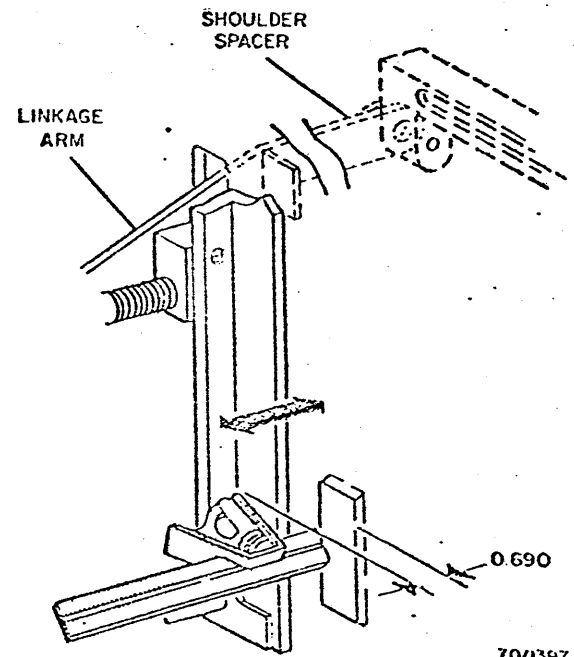

Fig. 3-33. Linkage Arm
3. Adjust the shoulder spacer to obtain the 0.690 dimension (Fig. 3-33).